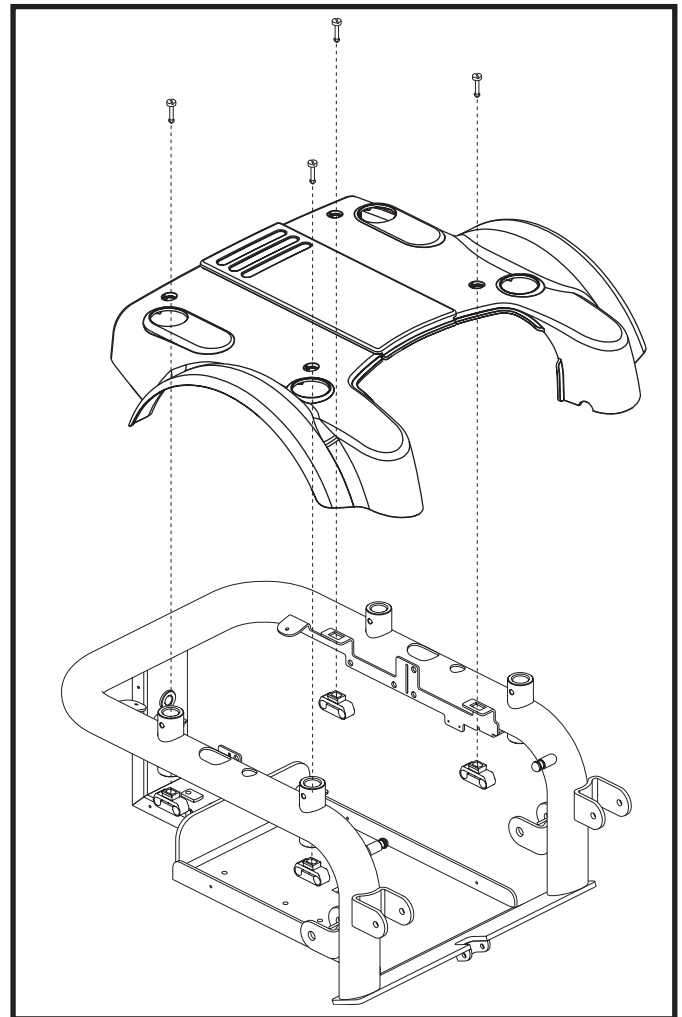

Figure 10. Jazzy 1121 Shroud Assembly/Disassembly
7. Unplug the battery charger from the electrical outlet and remove the shroud. **See figure 10.**
12. Remove the shroud. See figure 10.
18. Remove the shroud. See figure 10.